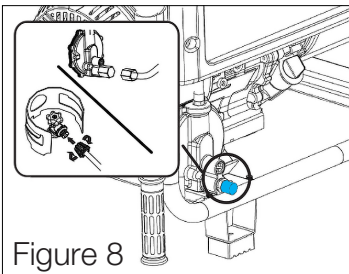

Figure 8
- Connect gas pipe to the intake nozzle of regulator; Open the valve of LPG bottle (See fig 8)